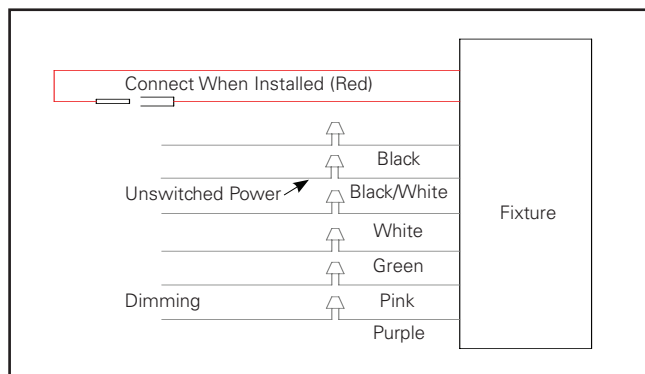

Figure 11.
- Make wire connections per the wire diagram (Figure 4 or Figure 11 for emergency battery pack option). If the side entry conduit holes are being used for the fixture power, then pull the wires out of the wire gasket in the back of drop door (shaped like a tombstone). Replace gasket and seal wire holes with RTV silicone. Make wire connections inside drop door housing.